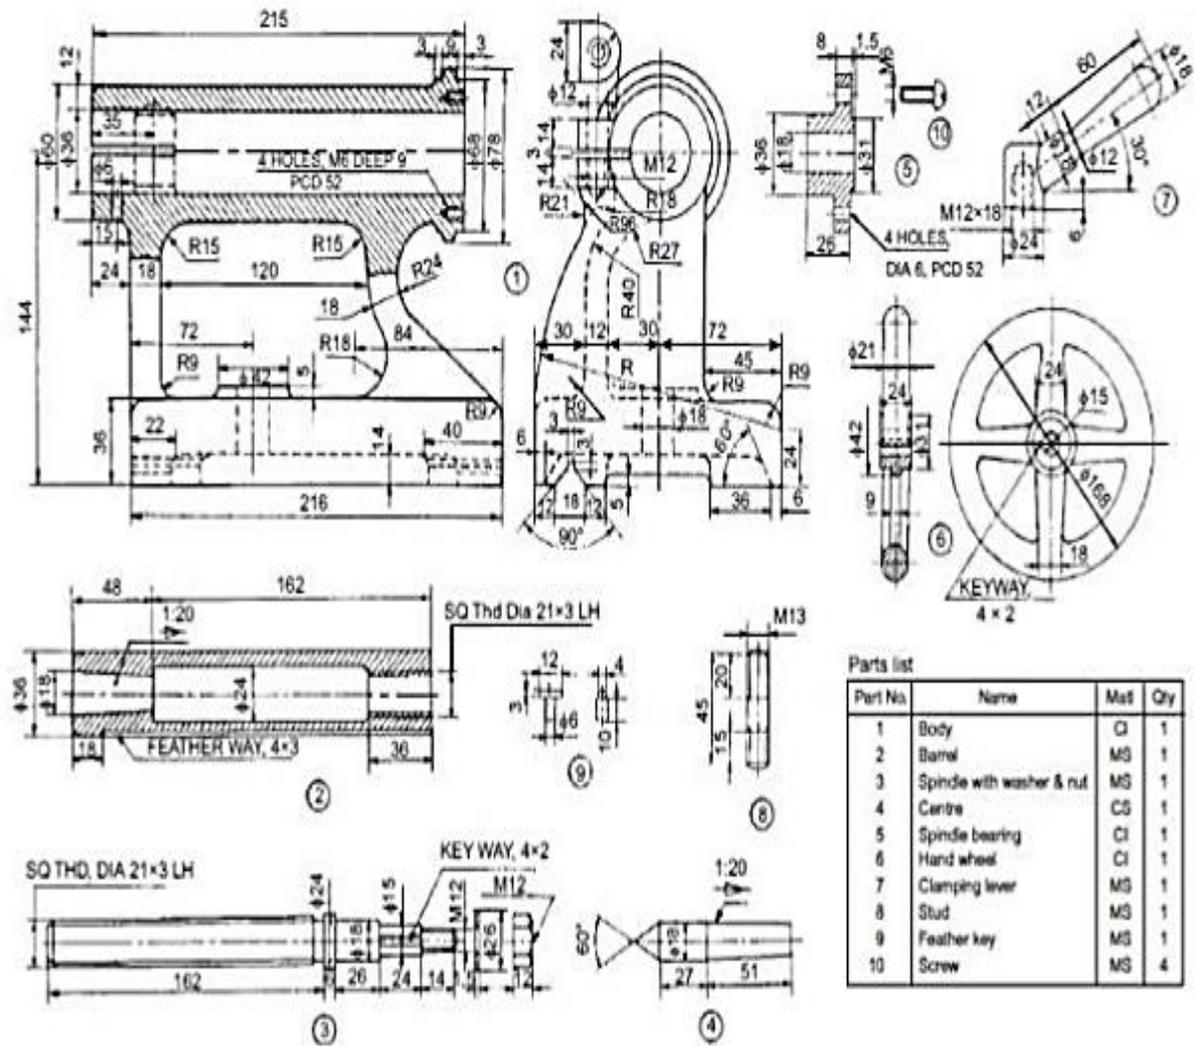

Fig. 1 Lathe tail-stock
Q.5 The figure1 shows parts of a tail stock. Assemble the parts and Draw the sectional front view of tail stock 14